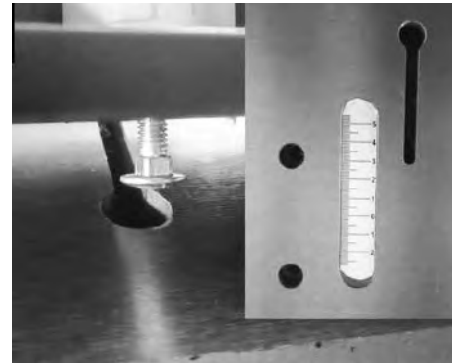

Fig. 9: Installing the spindle fence
Step 2: Guide the heads on the plastic screws through the openings on the table grooves (Fig. 9).